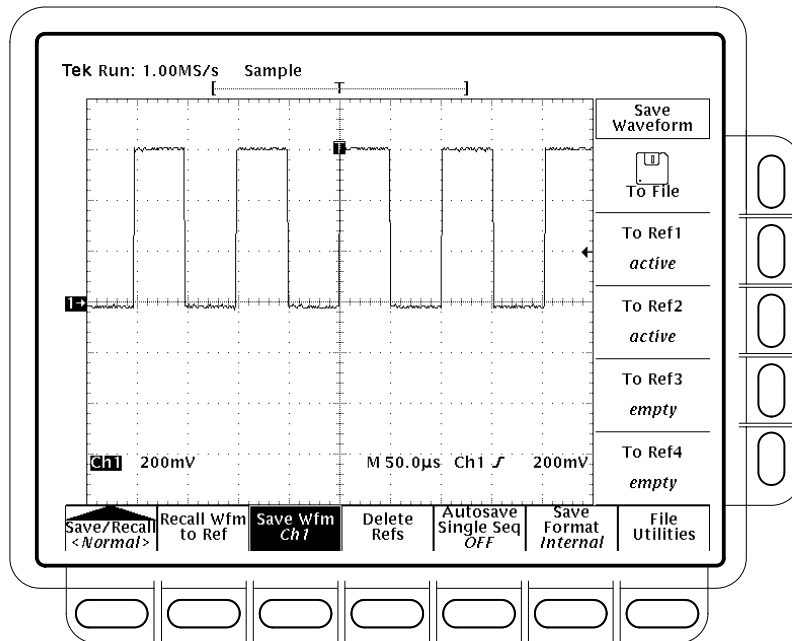

Figure 3–76: Save Waveform Menu
***STOP.** Before doing step 2 that follows, note that if you choose a reference memory location labeled active (see Figure 3–76), you will overwrite the waveform that was previously stored there. You can store waveforms in reference locations labeled empty without disturbing previously stored waveforms.*